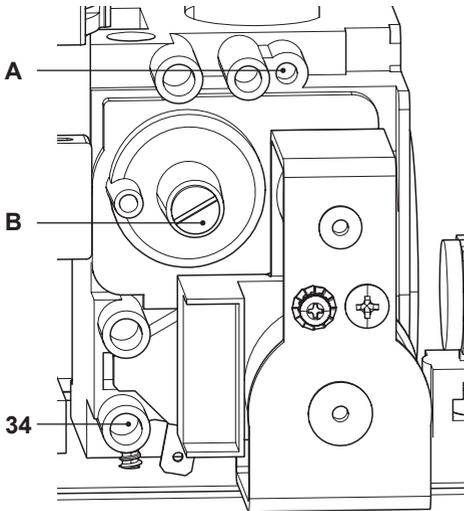

Fig. 7.9
- When the boiler is switched off (out of order), check the supply pressure by using the 34 point in Fig. 7.9 and compare the value read with that reported on the Gas supply pressure table in the "Technical Data" section (pag. 32 Inovia 25C ERP, pag. 36 Inovia 30C ERP and pag. 40 Inovia 35C ERP).
- Close well the pressure point 34 in Fig. 7.9.